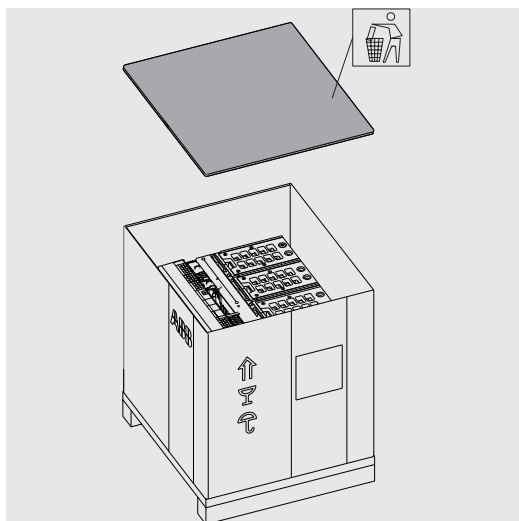

Figure 8
2. Open the upper part of the packing box. See Figure 8.